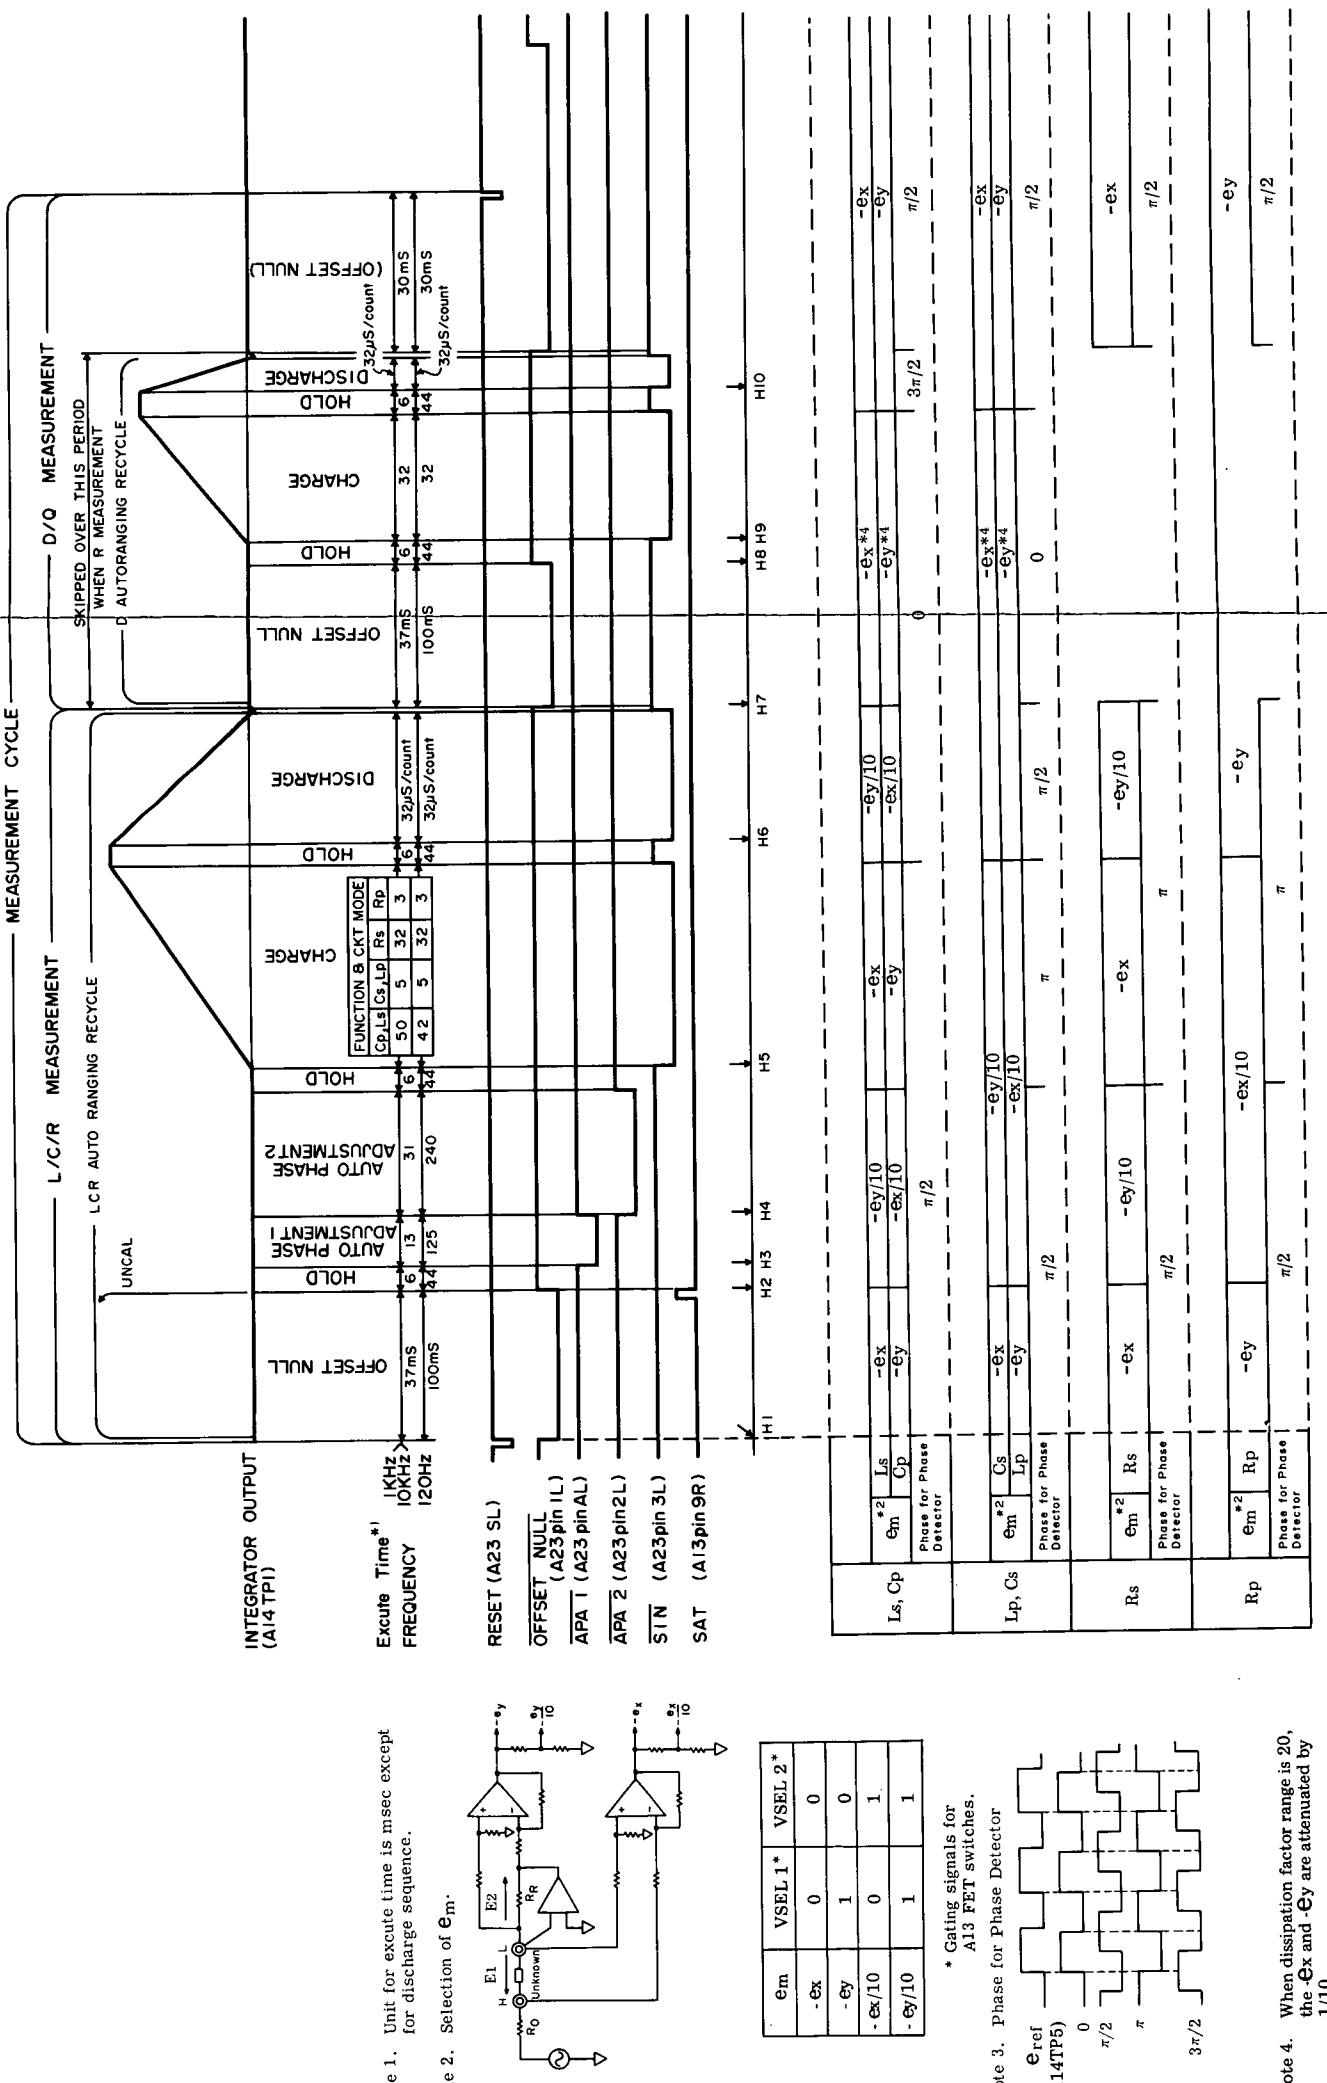

Figure 8-8. Timing Diagram.
The Em signal is selected by FET switches A13Q2, Q3, Q5, and Q6 which are, in turn, controlled by signal selection signals from the digital section. The method of selecting the Em signal is graphically shown in Figure 8-8 Timing Diagrams. The selected Em signal is amplified by A13U6A, U6B and becomes an input signal for the phase detector on A14 Board. The switches A13Q19 and Q18 turn on and off respectively to interrupt the Em signal flow during integrator offset control period. When TEST SIGNAL LOW button is pushed and lights (this pushbutton functions in Cp measurement mode only), the gain of amplifiers A13U5A and U6B is increased. Thus, the voltage levels of Eref and Em signals remain the same as when making a measurement at the nominal (high) test signal level. An SAT detector detects any Em signal level that exceeds approximately ±5 volts and transfers such SAT signals to digital section.
The Reference Phase Generator produces four reference phase signals each being different by 90 degrees in phase one from the other (these four signals are phase shifted respectively 0, $\pi/2$, π and $3\pi/2$ in radius vector as referred to the input signal Eref.). The reference phase signals are individually selected in a manner peculiar to the measurement modes (four types). The selected reference phase signal is fed to the Phase Detector to drive switches A14Q19, Q20, Q22 and A23 of the Phase Detector. The method of selecting the reference phase signal is illustrated in Figure 8-8 Timing Diagram. To establish the very accurate 90° phase difference, the Reference Phase Generator employs a Phase Locked Loop (PLL) circuit consisting of a local phase detector (PD), filter, and voltage controlled oscillator (VCO). Thus measurement error is minimized. An explanation of Reference Phase Generator operation is given on Service Sheet 14.
8-35. Figure 8-8 presents a timing diagram for the 4262A. The upper part of the diagram shows output waveforms of the integrator, execute time for each measurement sequence, and main control signals which direct the vector voltage ratio measurement. As may be seen from the diagram, the instrument first measures the L/C or R value and then the dissipation (D) and Q (calculated from D) factors. Approximately three seconds after the LINE switch is depressed to turn the instrument on, power voltage (V_{GG}) is applied to the nanoprocessor through a delay switch (A23 board). The nanoprocessor is simultaneously set to its initial conditions ready for beginning the display test which precedes measurement. When the display test ends, the processor sets the 4262A to a pre-determined measurement mode (automatic initial settings) and a capacitance measurement is initiated. When LCR and DQ ranges are set to AUTO, the autoranging recycle repeats until an LCR range suitable for the sample is selected. A front panel range indicator lamp lights and step-shifts to left or right. The displays show blanking signs (---) during autoranging period. If the sample is too large (in PRL mode) or too small a value (in SER mode) compared to the range, the Saturation Detector (A13) send a SAT signal to the nanoprocessor. Range is shifted just after Offset Null operations are completed (instrument does not cycle through steps in remaining measurement sequence). This permits faster ranging. Setting LCR RANGE to MANUAL bypasses autoranging cycle.